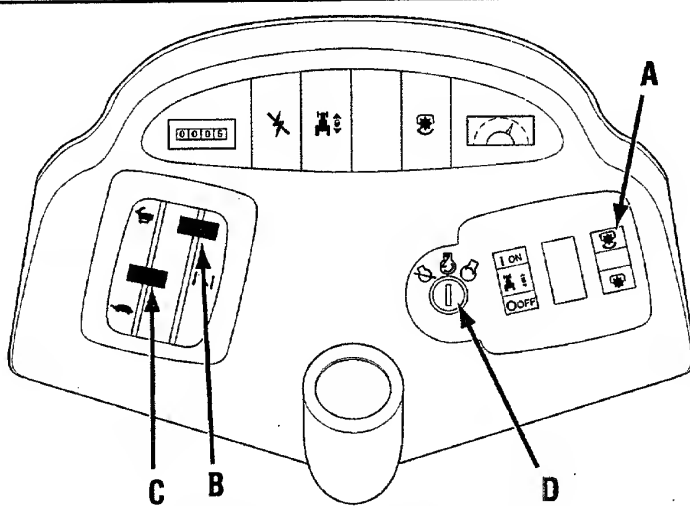
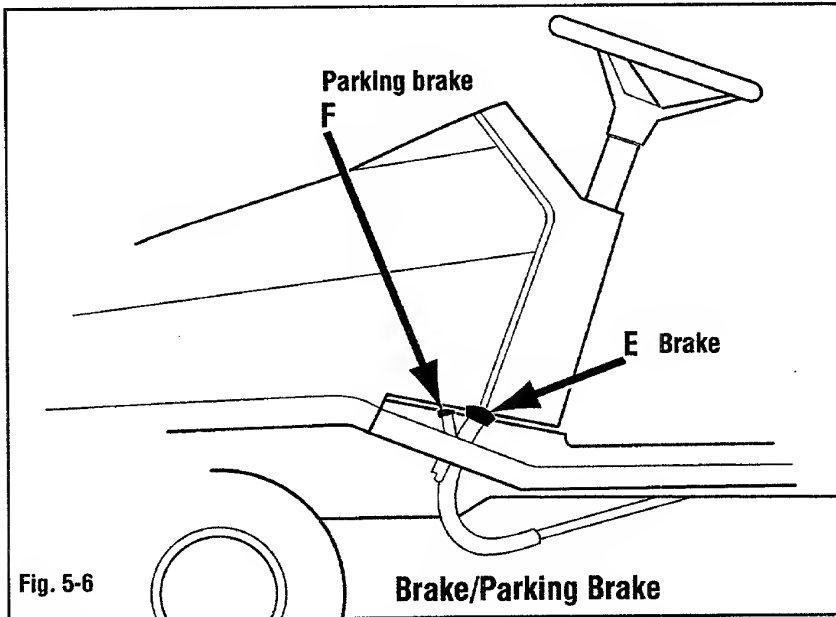

Fig. 5-5
Fig. 5-6
• Do not start the unit until all the steps of the pre-operation checklist at the beginning of this section have been completed. After completing these checks, set parking brake (F, Fig. 5-6), place attachment/PTO drive switch (A, Fig. 5-5) into the  (disengaged) position. Unit will not start if brake (E) is not depressed and/or attachment/PTO drive is engaged.
Drive unit slowly and check clutch/brake operation by depressing clutch/brake pedal (E, Fig. 5-6). Unit should stop. Set parking brake by pressing parking brake pedal (F) with toe when brake pedal (E) is fully depressed. To release parking brake, depress clutch/brake pedal (E) and release. If any problems are found, stop and service unit before continuing.